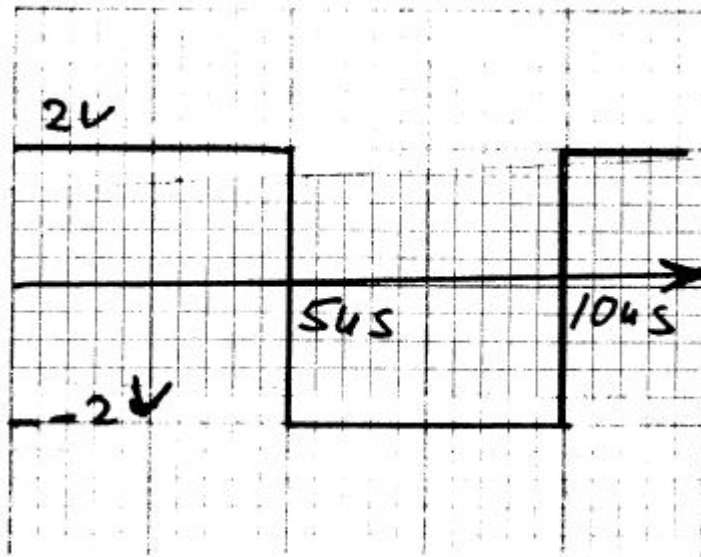

Figure 3:
- c. Repeat Part 3(a) for a 100 kHz $4 V_{p-p}$ square wave on Figure 3. Note that a square wave is called for.